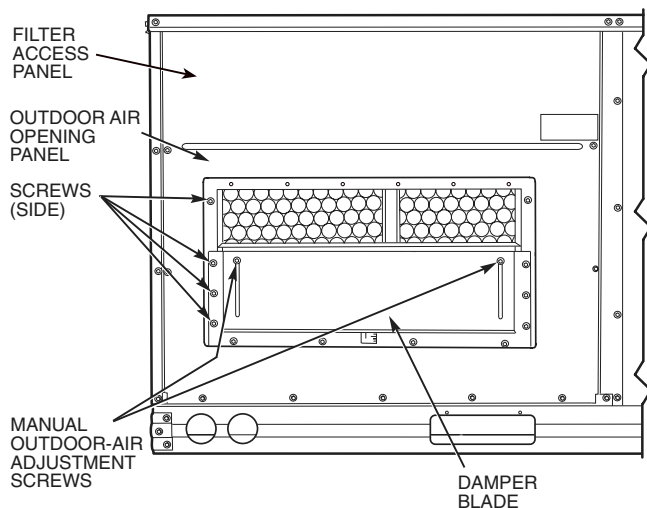
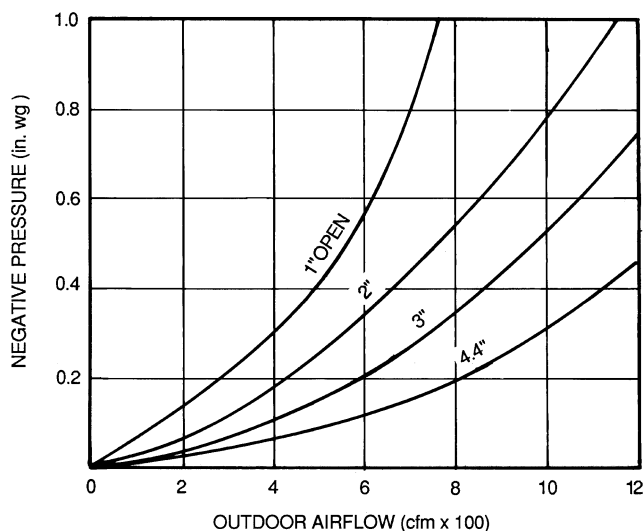

Fig. 13 — Damper Panel with Manual Outdoor-Air Damper Installed
Fig. 16 — Outdoor-Air Damper Position Setting
2. Remove filter access panel by raising panel and swinging panel outward. Panel is now disengaged from track and can be removed. No tools are required to remove the filter access panel. Remove outdoor-air opening panel. Save panels and screws. See Fig. 13.
8. Adjust minimum position setting of the damper blade by adjusting the manual outdoor-air adjustment screws on the front of the damper blade. See Fig. 13. Slide blade vertically until it is in the appropriate position determined by Fig. 16. Tighten screws.